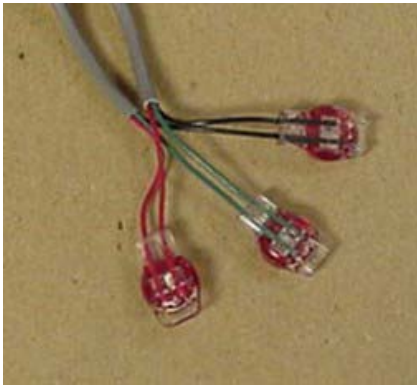

Figure 5 Three Color Wires Connected
- 7 Once all three color wires have been connected, read the encoder register to ensure proper connections and the receptacle/MIU is functioning properly. (See Figure 5.)